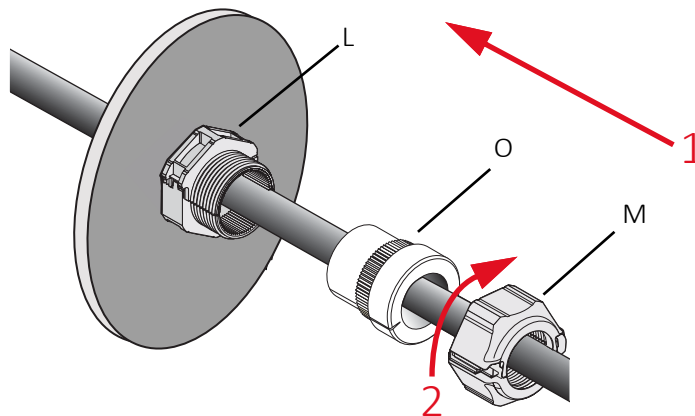

Figure 12: Positioning the Seal Insert (O) and tightening the Pressure Screw (M)
34. If cable through holes of the Seal Insert (O) are not needed, close them with the corresponding Seal Bolts: (s) for 5.0 mm, and (t) for 6.0 mm.
35. Push the Seal Insert (O) into the Double Nipple (L). See Figure 12.
36. Push the Pressure Screw (M) to the thread of the Double Nipple (L) and rotate clockwise.
37. Tighten the Pressure Screw (M) with an SW35 mm wrench at 4 Nm maximum torque.